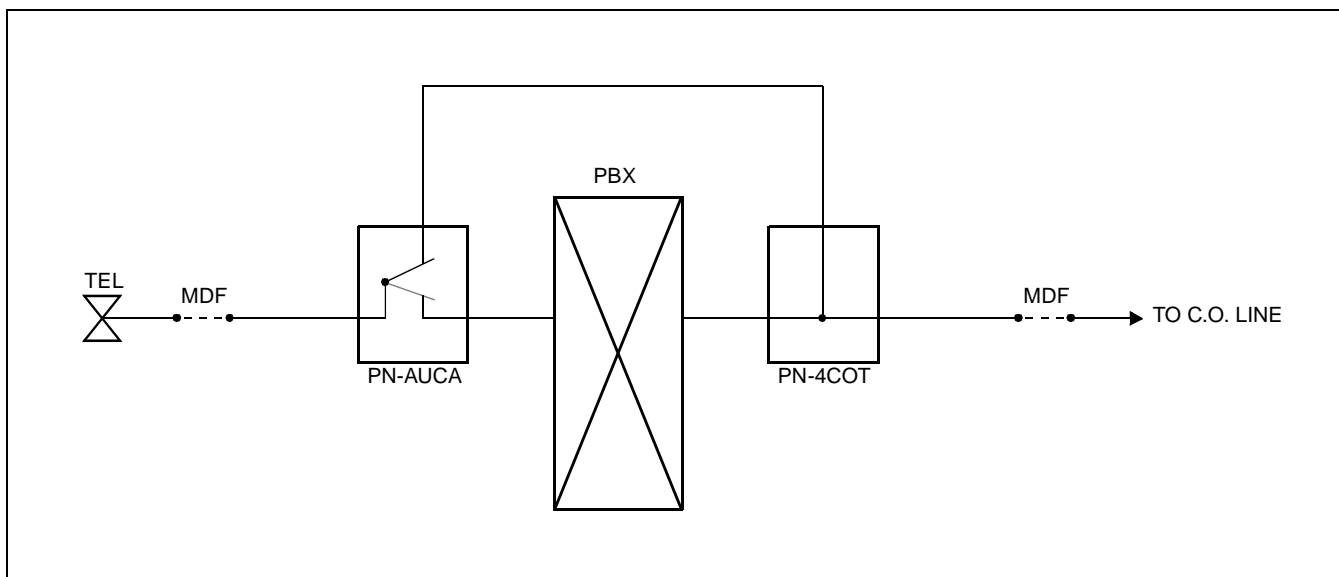

Figure 007-38 Outline of the PFT (PN-AUCA) Connection
- An outline of a PFT (PN-AUCA) connection is shown in Figure 007-38.